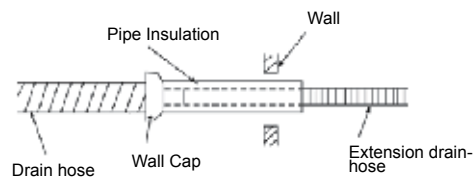

Fig. 13
- When extending the drain hose, with locally purchased hose, insulate the connection with armafex or similar pipe insulation material. (Fig. 13)